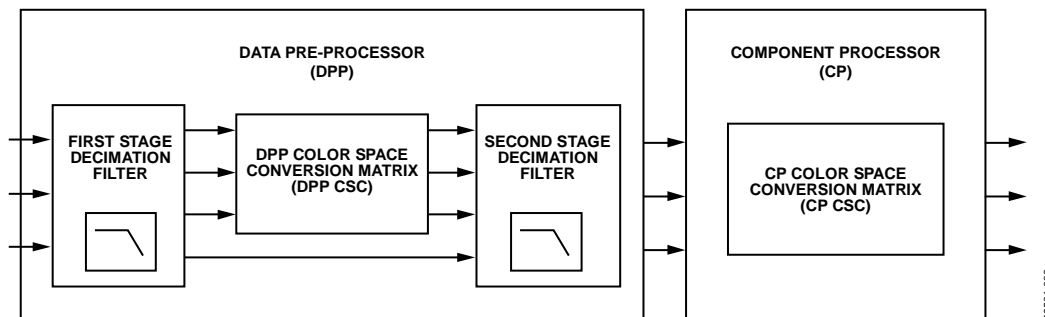

Figure 32. DPP/CP CSC Block Diagram
The ADV7619 provides any-to-any color space support. It supports formats such as RGB, YUV, YCbCr and many other color spaces. Data Preprocessor and Component Processor are designed to run at speeds of up to 170 MHz. Therefore HDMI video with pixel clock frequencies above 170 MHz must be routed directly to Video Output Formatter bypassing Data Preprocessor (DPP) and Component Preprocessor (CP). For more information about bypassing DPP and CP please refer to Pass Through Mode section. The ADV7619 features a 3x3 CSC in the CP block (CP CSC), as shown in Figure 32. The CP CSC also provides color controls for brightness, contrast, saturation and hue adjustments. The DPP block features an automatic CSC. The ADV7619 automatically configures the DPP CSC depending on the input and output formats and the use of the color control feature.